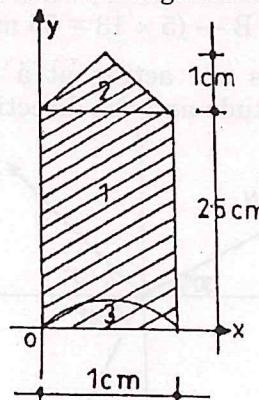

fig Q 13(a)
13. (a) Locate the center of gravity of a bullet, 1 cm diameter with a cone on the front and a hemisphere cut from the back as shown in fig Q 13(a) below. Assume the material to be homogeneous.